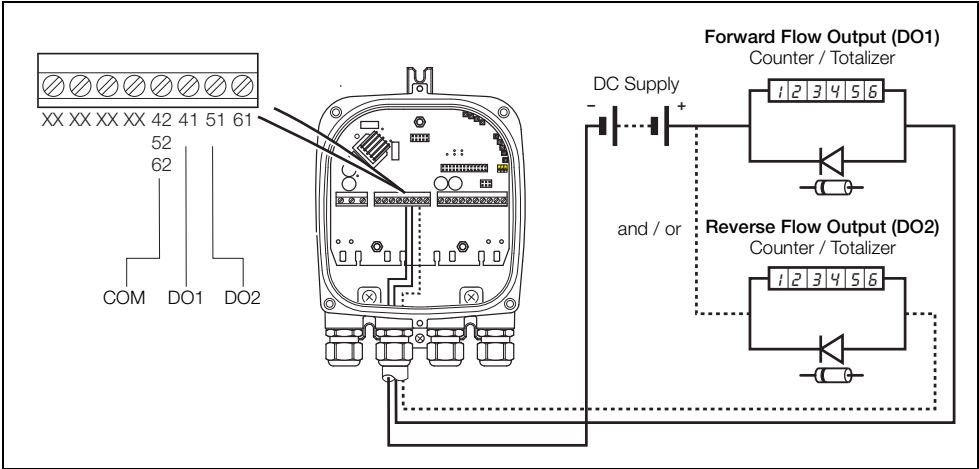

Fig. 3.7 Electromechanical Connections
- Normal alarm / logic output is from DO3 (terminal 61). DO1 (41) and DO2 (51) can also be configured as alarms if required but are then NOT available as frequency / pulse outputs as shown in Figs 3.7 and 3.8).